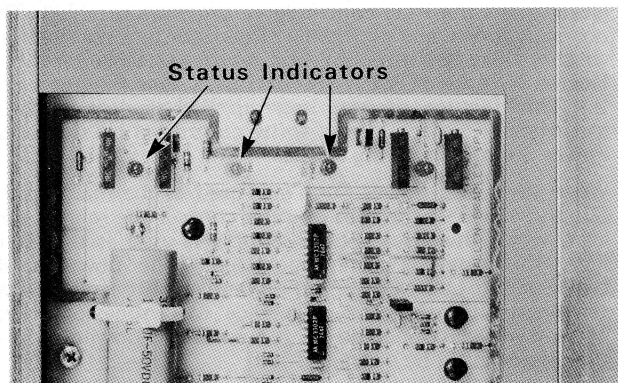

Figure 5 — Power Supply Monitor Module on Series B, C
12.0 Series B and C Indicators — There are 3 indicators on the Series B Supply's Power Supply Monitor Module (Cat. No. 1774-PJ): one labeled AC ON, one labeled DC ON, and one labeled SYS ENABLE. (See Figure 5.)